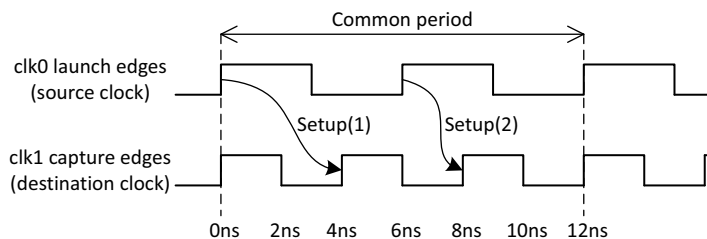

Figure 3-3: Setup Path Requirement Example
Figure 3-3 shows that there are two unique source and destination clock edges that qualify for setup analysis: setup(1) and setup(2).